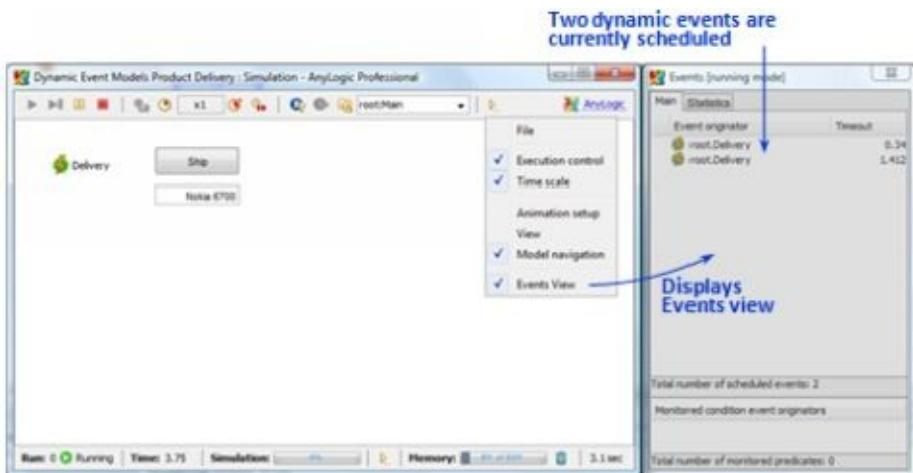

Figure 8.13 Scheduled dynamic events can be seen in the Events view
8. Open the **Controls** palette and drag the **Edit box** item under the button as shown in Figure 8.13.